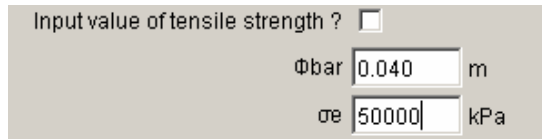

Figure 42: reinforcements dialogue box: tab 1 (nails)
- or must be calculated based on the steel bar diameter (ϕ_{bar} in m) and on the yield stress (σ_e , pressure unit) (Figure 42). This second choice is the default choice.